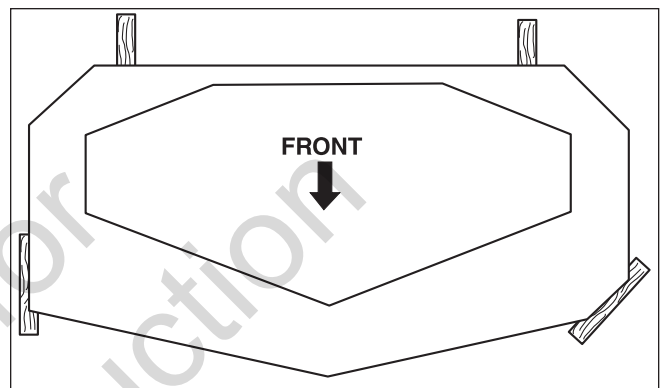

Figure 36. Block Positions
5. Block up the mower deck until all of the hanger chains are slack. See Figure 36.